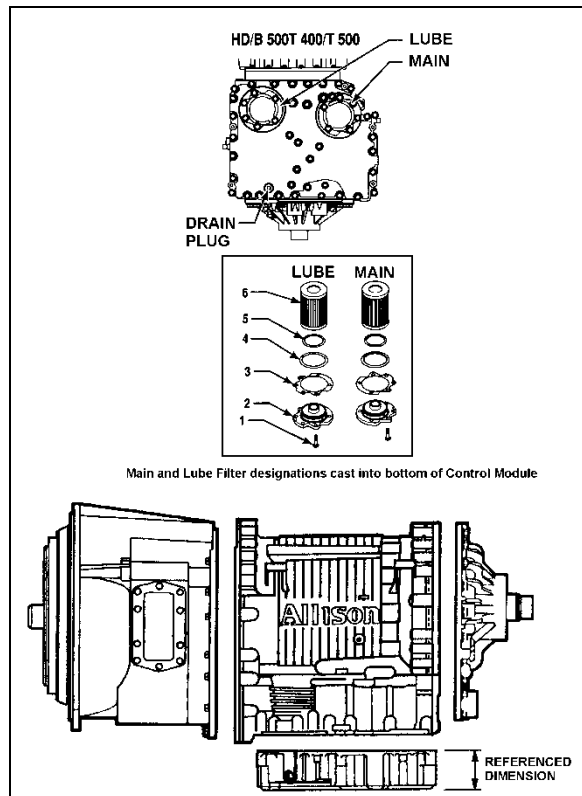

FIGURE 6: DRAIN PLUG AND FILTERS
2. Remove the drain plug from under the transmission (Figure 6) and allow the oil to drain into a suitable container. Check the condition of the oil as described previously.
3. Remove twelve bolts (item 1), two filter covers (item 2), two gaskets (item 3), two O-rings (item 4), two O-rings (item 5) and the two filters (item 6) from the bottom of the control module (Figure 6).
4. When reinstalling parts, lubricate and install new O-rings (4) and (5) on each cover (2). Lubricate O-ring inside filter (6) and push filter onto cover (2). Install new gaskets (3) on cover (2) and align holes in gaskets with holes in cover.